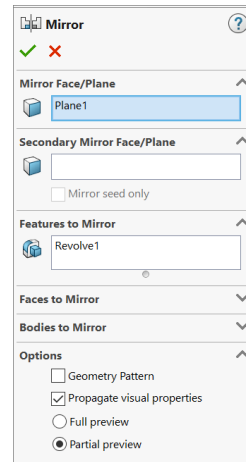

Fig. 36
Step 3. In the Mirror Property Manager click OK , **Fig. 36**.